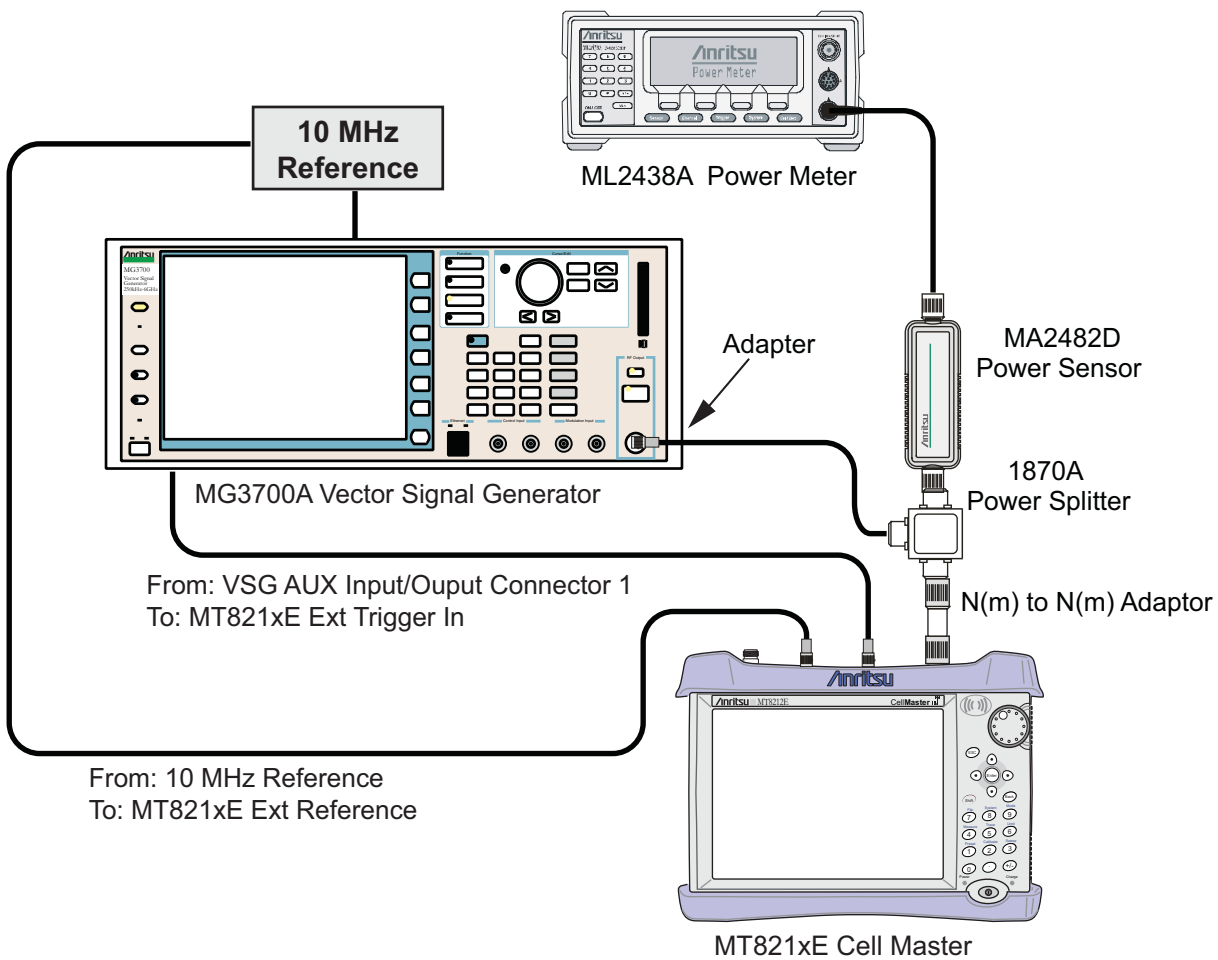

Figure 5-7. CDMA Signal Analyzer Option Verification
2. Connect the equipment as shown in Figure 5-7.
4. Set the MT821xE mode to **CDMA Signal Analyzer**. Press **Shift** and press **Preset** (1) to preset the MT821xE.
1. Confirm that the equipment settings are unchanged from the previous test. Refer to Figure 5-7 on page 5-32.